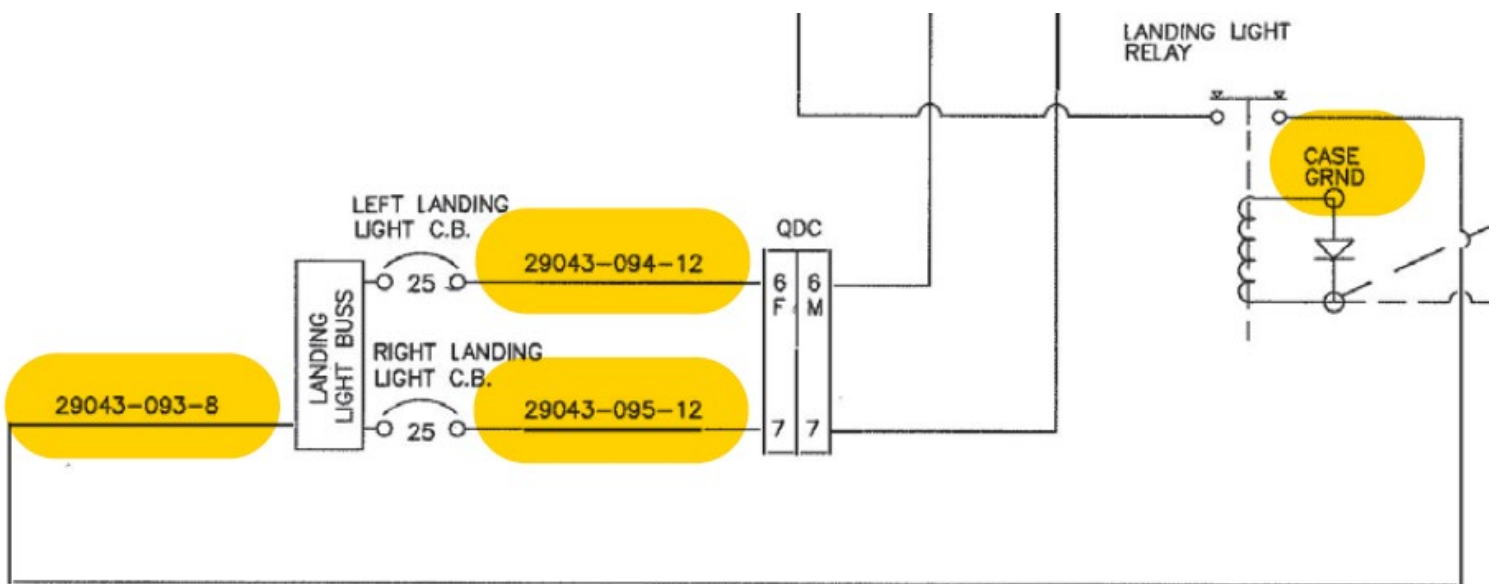

Figure 19: Landing Light Relay, Left Landing Light Power Circuit Breaker and Right Landing Light Power Circuit Breaker wires
24. Connect 29043-093-8 wire to Landing Light Relay and Right Panel. Connect 29043-094-12 to Right Hand Panel and 25 Amp Left Landing Light Power Circuit Breaker (7271-8-25). Connect 29043-095-12 to Right Hand Panel and 25 Amp Right Landing Light Power Circuit Breaker (7271-8-25 25). Refer to Figure 19.